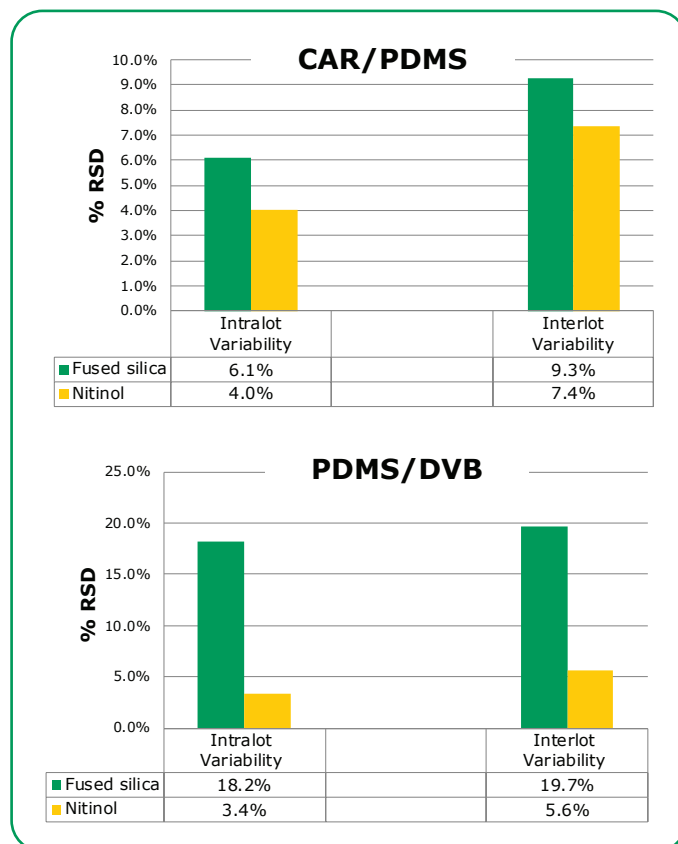

Figure 8. Inter-lot and Intra-lot Reproducibility Testing Comparing NIT and FS SPME Fibers
- Enhanced lot-to-lot and fiber-to-fiber reproducibility stemming from more stringent coating conditions (**Figure 8**)